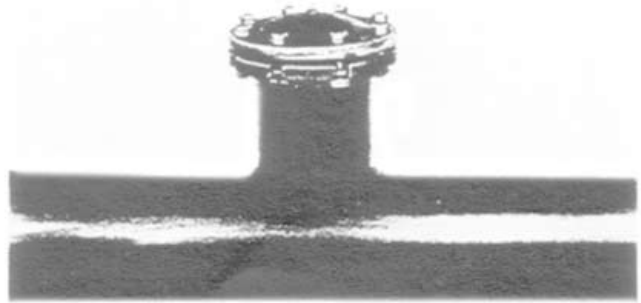

FIGURE 39
17. Bolt cap solidly to nipple flange. **Figure 39.**